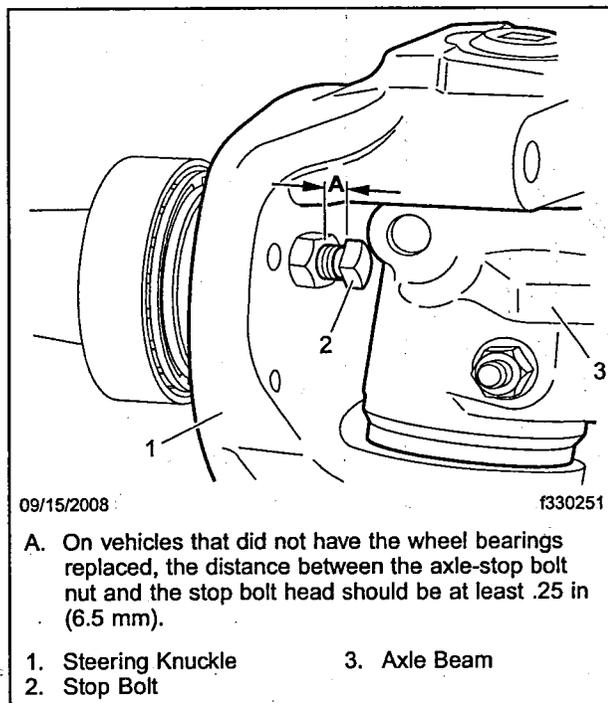

Fig. 4, Stop Bolt, Gap Between the Nut and Head
- 1.1 Measure the distance between the axle-stop bolt nut and the stop bolt head. See **Fig. 4**.